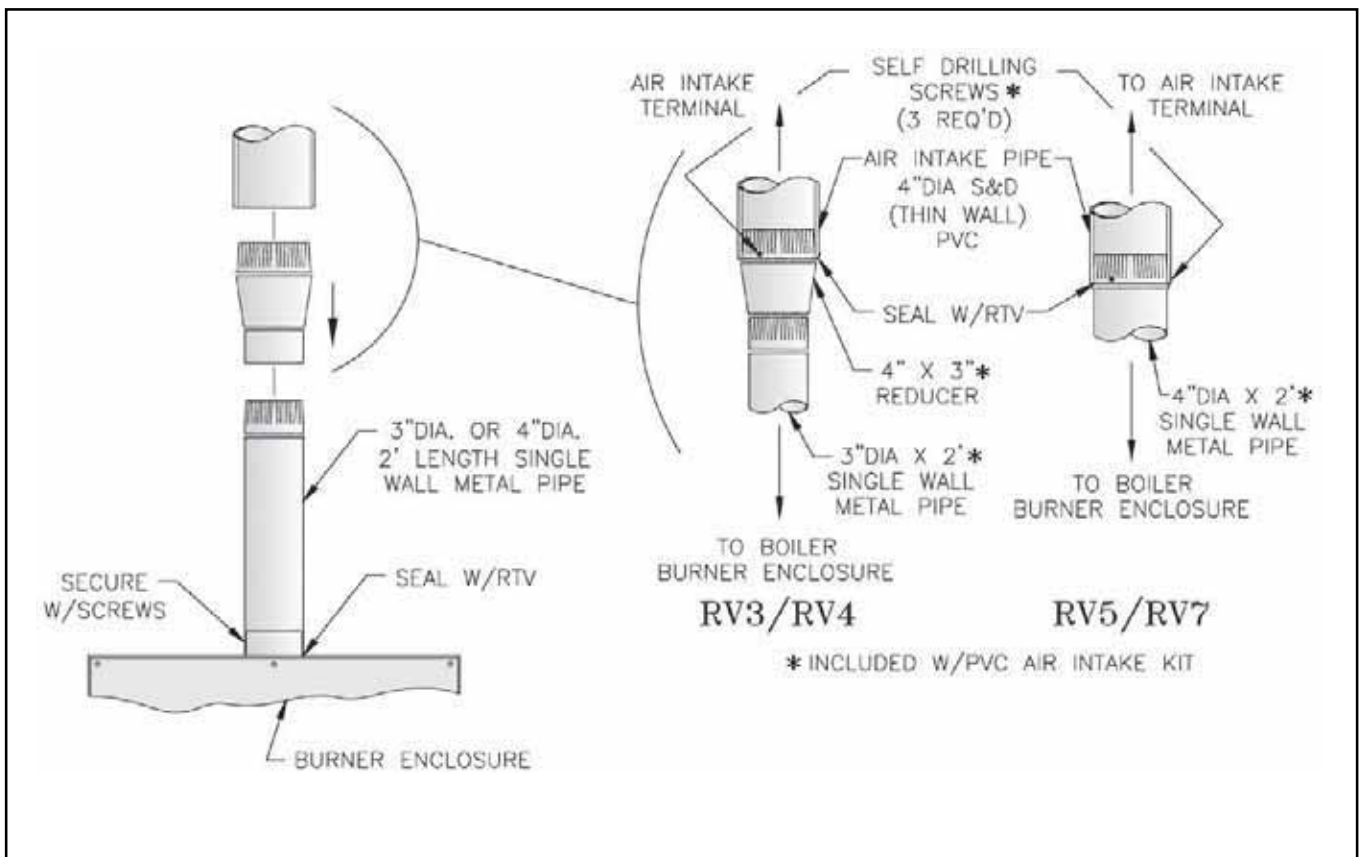
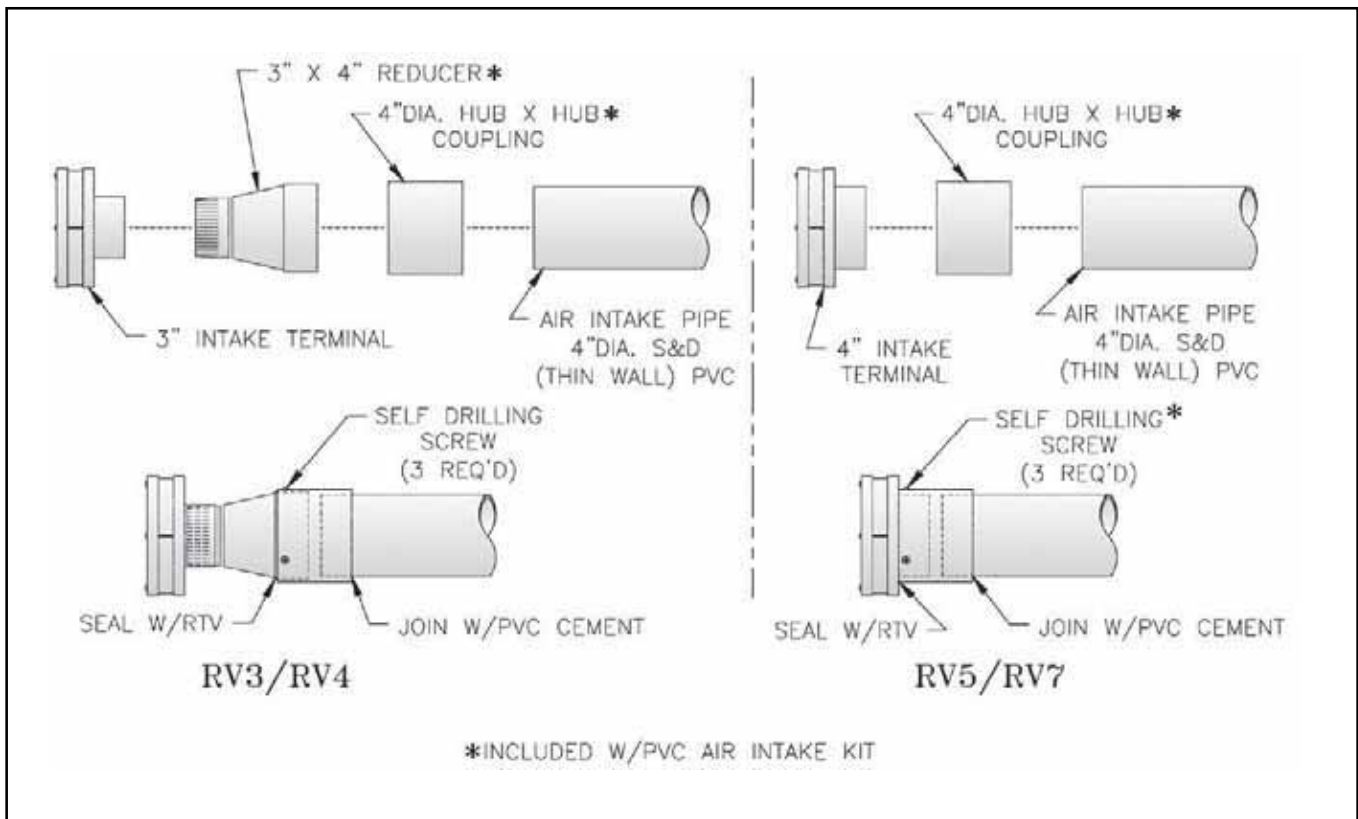

Figure 20: PVC Air Intake - Air Intake Pipe Installation
Figure 21: PVC Air Intake - Separate Horizontal/Vertical Air Intake Terminal Installation
**K. PVC Air Intake System** – See Figures 20, 21 and 22.
4. Install two (2) foot section of single wall metal pipe (provided) onto burner enclosure collar.
- a. Secure with three (3) sheetmetal screws.
- a. Secure 4 inch x 3 inch reducer onto two (2) foot section of single wall metal pipe. See Figure 20.
6. Insert and secure 4 inch diameter S & D (thin wall) PVC onto either 4 inch x 3 inch reducer (RV3-RV4) or 4 inch diameter two (2) foot section of single wall metal pipe (RV5-RV7). See Figure 20.
- a. Secure with three (3) self-drilling sheetmetal screws provided.
8. The air intake pipe must be adequately supported with straps or supports no less than five (5) feet apart on horizontal runs. The complete air intake piping system must be rigid and able to withstand minor impacts without collapse.
- a. Join PVC air intake piping to terminal using PVC coupling provided. See Figures 21 and 22.
- Note: RV3-RV4 separate horizontal/vertical installations will require the 4 inch x 3 inch reducer (provided) in addition with the PVC coupling to join the air intake piping and air intake terminal. See Figures 21 and 22.
- b. Secure PVC to terminal or reducer with three (3) self-drilling sheetmetal screws provided.